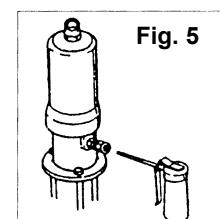

Fig. 5
- 2) Inject several drops (approx. 0.5 mL) of lubricant to the air supply port as shown in the figure at right. (Fig.5)